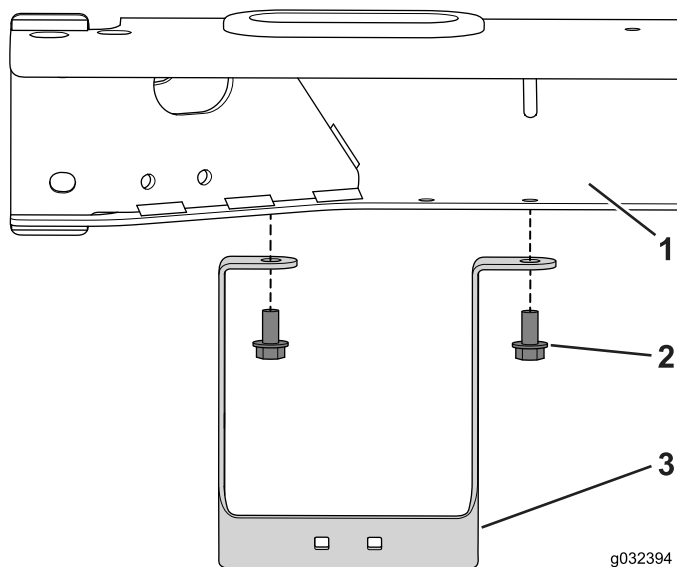

Figure 17
1. Use the 2 bolts (5/16 x 5/8 inch) to install the bracket to the frame (Figure 17).